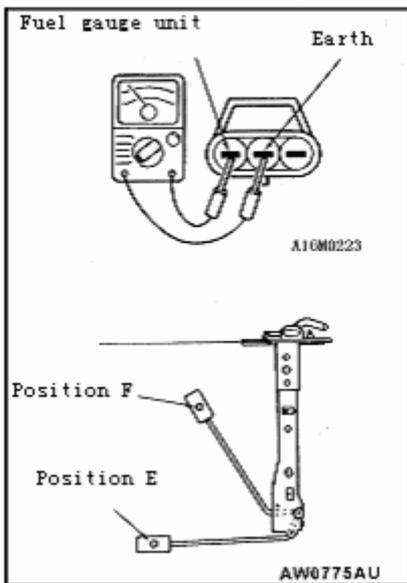

Fig 20-65
- ① Basic resistance of fuel gauge unit
- a. When float of fuel gauge unit is in position F and E, ensure that resistance between fuel gauge unit terminal and earth terminal is within standard value (as Fig 20-65).